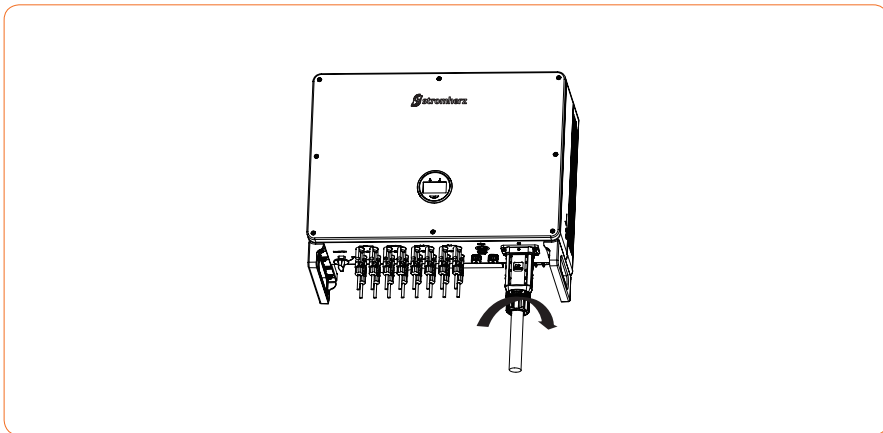

Figure 4-21
⑤ Tighten the nut with an openended wrench and complete the installation with a "click, click, click", as shown in Figure 4-21: